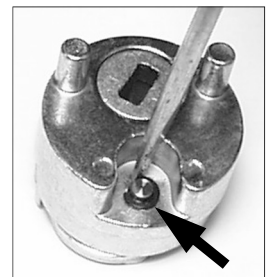

Fig. 2b: Remove retaining ring.
- 2b. **Remove the retaining ring** with a small tool such as screwdriver or small needle-nose pliers (see Fig. 2b).